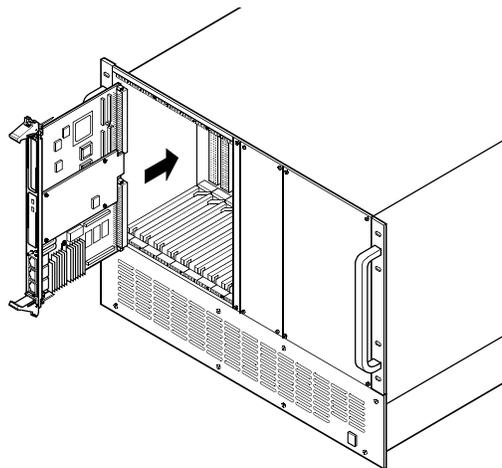

Figure 1-2. MVME5100 Installation and Removal From a VMEbus Chassis
3. If the MVME5100 has already been installed in a VMEbus card slot, carefully remove it as shown in Figure 1-2 and place it with connectors P1 and P2 facing you.
3. If the Primary PMC Carrier Module and MVME5100 assembly is already installed in the VME chassis, carefully remove it as shown in Figure 1-2 and place it with connectors P1 and P2 facing you.